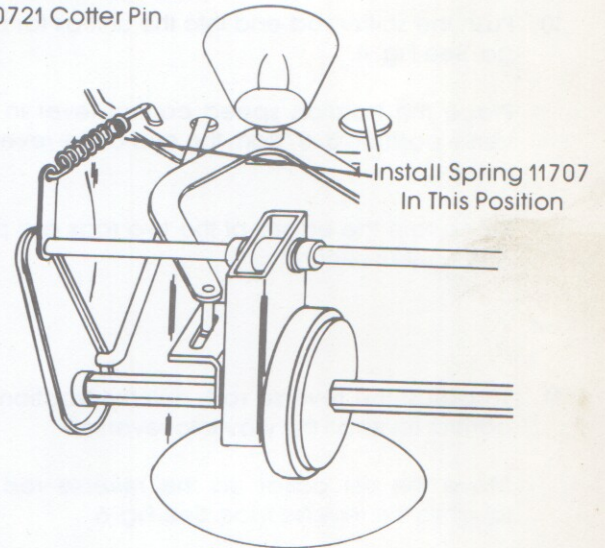

FIG. 1
3. Install spring #11707, from service kit, between traction drive support arm assembly and slot in upper left hand corner of backing plate. (See Figure 1)